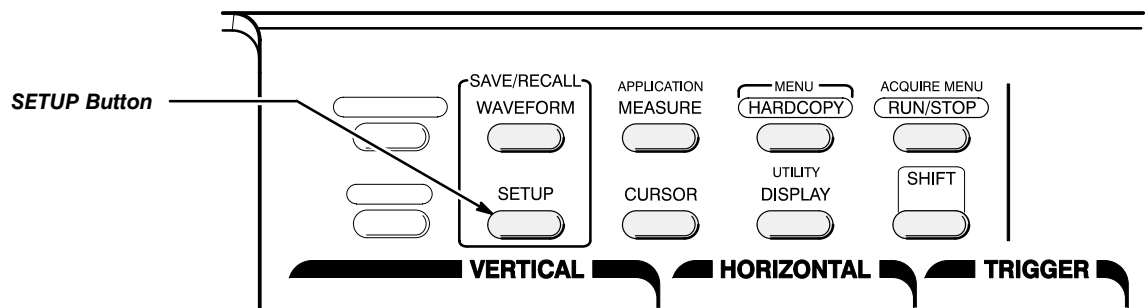

Figure 1-4: Menu Button Locations (Gray Buttons)
1. Press the save/recall **SETUP** button to display the Setup menu (Figure 1-4).